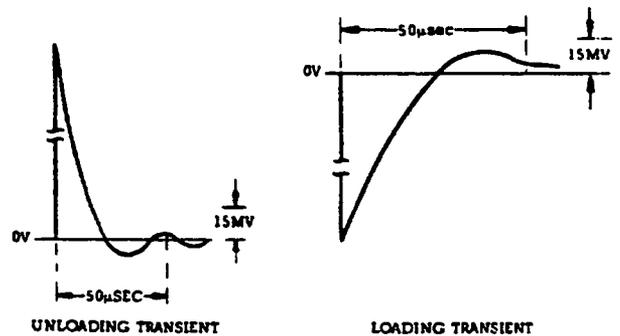

Figure 5-8. Transient Response Waveforms
f. Adjust 25K potentiometer until a stable display is obtained on oscilloscope. Waveform should be within the tolerances shown in Figure 5-8 (output should return to within 15 mV of original value in less than 50 microseconds).